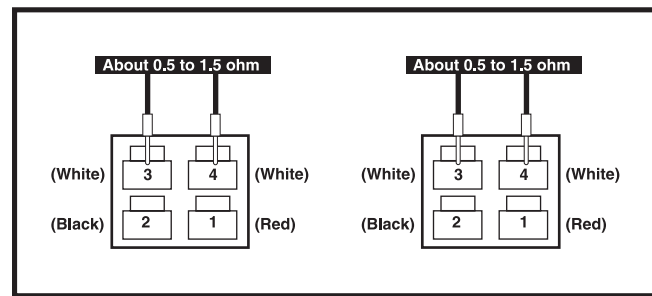

Figure 45. Connector 8a and 9a
5. Measure resistance across pin 3 and pin 4 on both connector 14b and connector 13b. **See figure 45.**
- *If your multimeter indicates about 60 ohms for both tests, then replace the power module (4) and retest the system.*
7. Measure resistance across pin 3 (white) and pin 4 (white) on connector 8a. **See figure 45.**
- *If your multimeter indicates 60 ohms, then replace the left motor interface harness (13) and retest the system.*
8. Measure resistance across pin 3 (white) and pin 4 (white) on connector 9a. **See figure 45.**
- *If your multimeter indicates 60 ohms, then replace the right motor interface harness (14) and retest the system.*